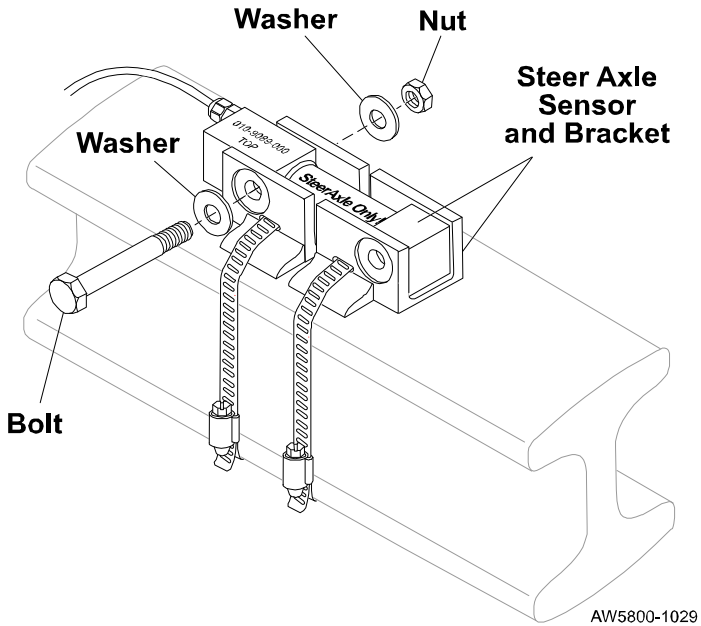

Figure 10. Assembling the Sensor and the Sensor Bracket
4. Insert one bolt and washer through the bracket hole on the sensor end with the word “TOP” on it. See Figure 10.